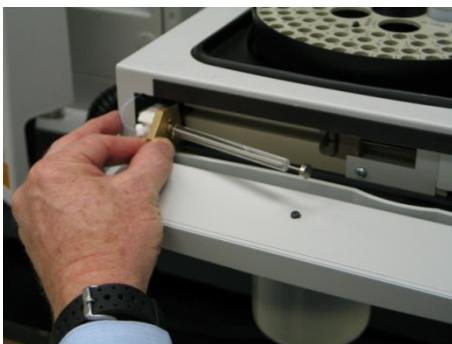

Figure 16 Removing the syringe block assembly and syringe
- 2 Carefully pull the syringe block assembly and syringe from the module, as shown in Figure 16.